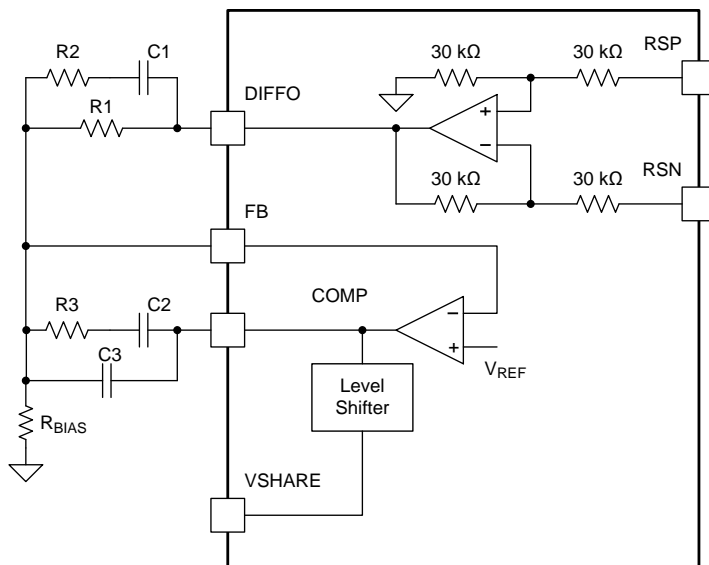

Figure 25. Output Voltage Setting
The devices implement a differential remote-sense amplifier to provide excellent load regulation by cancelling IR-drop in high-current applications. The RSP and RSN pins should be kelvin-connected to the output capacitor bank directly at the load, and routed back to the device as a tightly coupled differential pair. Ensure that these traces are isolated from fast switching signals and high current paths on the final PCB layout, as these can add differential-mode noise. Optionally, use a small coupling capacitor (1-nF typical) between the RSP and RSN pins to improve noise immunity. The output of the differential remote sense amplifier (DIFFO) is used for output voltage setting and error amplifier frequency compensation local to the device as shown in Figure 25.
The devices use voltage mode control with input feedforward. Frequency compensation can be accomplished using standard Type III techniques as shown in Figure 25.
A voltage divider from the DIFFO pin to the FB pin is typically required to set the nominal output voltage like the one formed by R1 and R_{BIAS} resistors shown in Figure 25 and the resulted output voltage is shown in Equation 1.
| VOUT_SCALE_LOOP | RESISTOR DIVIDER R _{BIAS} : R1 (IN Figure 25) | OUTPUT VOLTAGE RANGE (V) | | VOUT_COMMAND DATA VALID RANGE | |